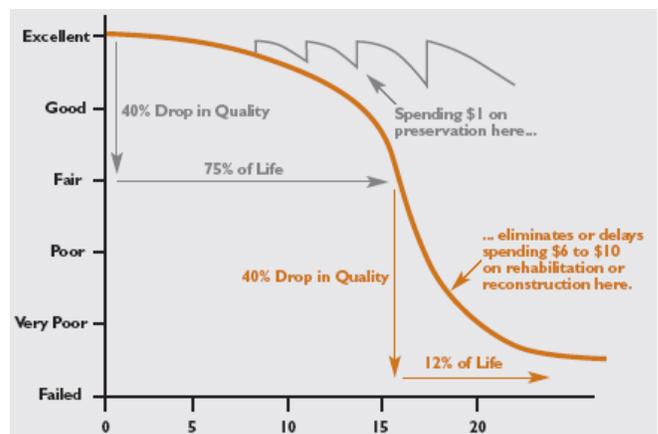

Figure 1
Figure 1 shows the classic deterioration curve and preventive maintenance (PM) cost effectiveness. The vertical axis is pavement condition; the horizontal axis is time in years. The thick line shows how roads initially deteriorate slowly for some time. Without any maintenance, they soon wear out.
The top wave-like curve in Figure 1 shows that even repeated PM treatments cost less than waiting to rehabilitate or reconstruct roads. These less expensive repairs extend road life. Applied before structural deterioration, they make more expensive repairs unnecessary for many years. In other words, preventive maintenance means **APPLYING THE RIGHT TREATMENT TO THE RIGHT ROAD AT THE RIGHT TIME.**
Figure 1 is from a national publication. In New Hampshire, cities and towns should expect to seal cracks on 4 to 6 year roads rather than the indicated 8 years.